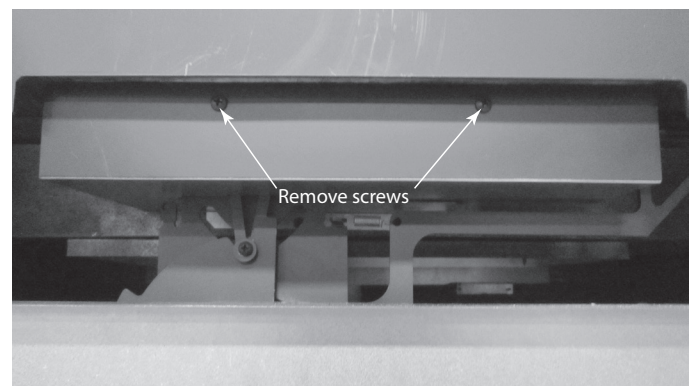

Figure 4.15 Removal of Screws on Air Chamber Cover
2. Remove the two (2) screws in the air chamber cover. See Figure 4.15. Pull it down and off. See Figure 4.16.